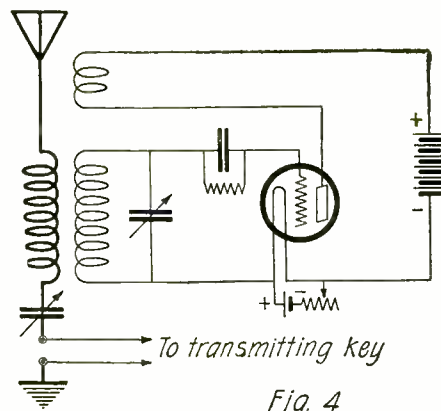

Fig. 4
We thus see that by properly coupling the plate or output circuit of a V.T. amplifier to the grid or input circuit oscillations will be generated. Now every vacuum tube is an amplifier, this property is what makes it so important. A vacuum tube detector in a regenerative receiver acts as an amplifier. Consider the simple regenerative receiver of Fig. 4, which uses the popular tickler circuit. The tickler coil T serves to transfer some of the amplified plate energy back into the grid circuit. This is then re-amplified, producing more plate energy. It is by this means that the regenerative receiver is superior to other types. If the tickler coupling is made tight enough—in other words, if enough of the amplified plate energy is fed back into the grid—the circuit will maintain oscillations even though no signals are received according to the principle outlined above. In fact, this is actually done in receivers which receive C.W. by the heterodyne method. Oscillations are generated in the receiver by coupling tightly the tickler coil to the grid circuit, and these oscillations combine with the received C.W. signals to form a beat note. It will be apparent that instead of using these oscillations to heterodyne received C.W. signals they may be used to transmit, for, since we have produced in the plate circuit a steady flow of continuous oscillations, only a part of which is fed back into the grid circuit to keep the circuits oscillating, the balance of the plate energy may be used by coupling simultaneously to the antenna and radiating the oscillations. In this case the amplified plate energy is used as follows: A small part is fed back into the grid circuit which keeps the circuits oscillating continuously and the balance is induced in the antenna circuit and radiated or transmitted. Thus a regenerative receiver
1. *Shunt Circuit.* Various forms of this circuit are used, but they are all essentially the same. In this type the radio frequency circuit and the direct current power supply are connected in shunt across the tube as seen in Fig. 4. Fig. 5 illustrates the case where two separate coils are used for antenna and grid. It is seen that the plate coil is part of the antenna coil and that the grid coil is coupled to it. Where a separate plate coil is used which is coupled to the grid and antenna the circuit is called a Meissner circuit. Here the energy is fed back into the grid by coupling directly to the plate coil, whereas in Fig. 4 the grid is coupled to the antenna coil. In Fig. 5 the plate and antenna are conductively coupled. A modification of this circuit which is most widely used and